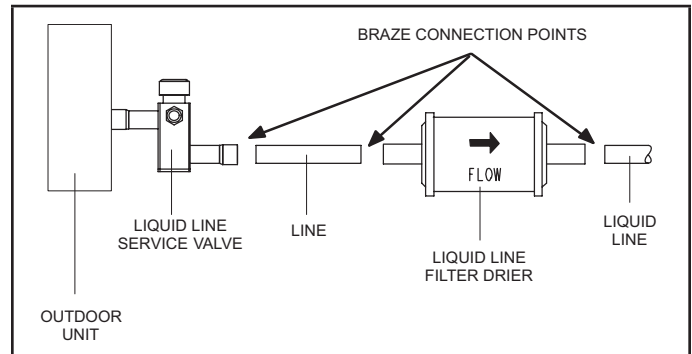

FIGURE 6. Typical Liquid Line Filter Drier Installation
- When possible, do not install the unit directly outside a window. Glass has a very high level of sound transmission. For proper placement of unit in relation to a window see the provided illustration in figure 6, detail A.
The filter drier (one is shipped with each EL17XC1 unit) must be field installed in the liquid line between the outdoor unit's liquid line service valve and the indoor coil's metering device as illustrated in figure 6. This filter drier must be installed to ensure a clean, moisture-free system. Failure to install the filter drier will void the warranty. A replacement filter drier is available from Lennox. See Brazing Connections on page for special procedures on brazing filter drier connections to the liquid line.